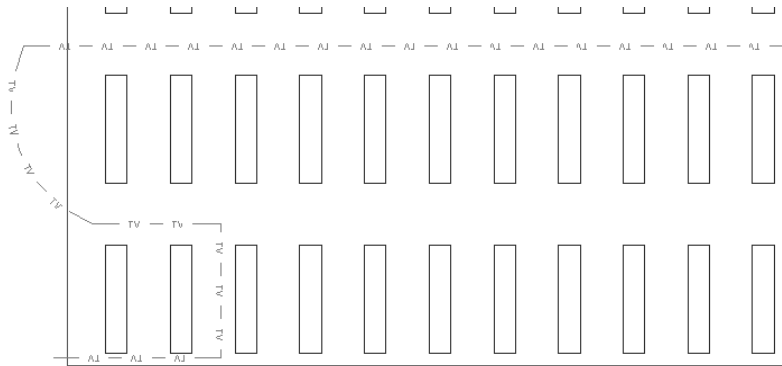

**Figure 31-5:** The TV linetype.
9. Draw some lines or polylines. Zoom in to see the linetype more clearly. Figure 31-5 shows the resulting linetype.